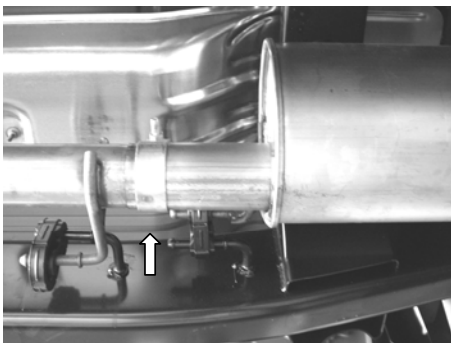

Figure 5
8. Unbolt the clamp shown in figure 5 located just ahead of the front muffler assembly.